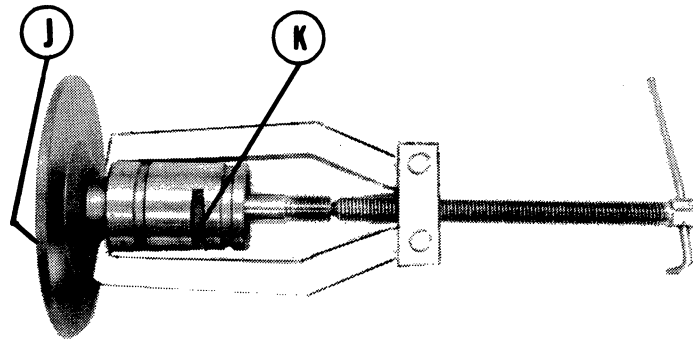

Fig. 29
2. Use a bearing puller, engaging its jaws with the milled grooves (K) in the clutch bearing sleeve (Fig. 29) to pull the clutch bearing nearest the pulley end from the clutch shaft.
3. Clamp thickest portion of clutch shaft with clutch disc attached in a bench vise, flatten out the safety washer (J) under nut (Fig. 29) and remove the nut. The clutch disc can now be removed from the clutch shaft; also remove the clutch disc key. Now the second ball bearing can be removed, using the bearing puller.